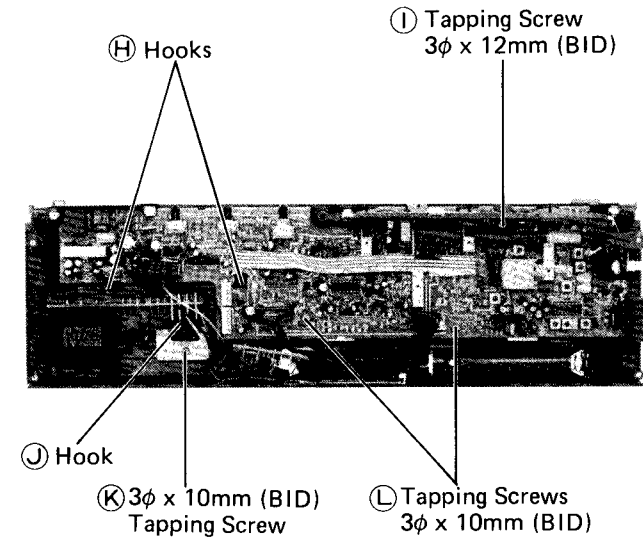

Figure 7
2. Remove two screws (L) ($3\phi \times 10\text{mm}$) and one screw (I) ($3\phi \times 12\text{mm}$) fixing main P.C. Board. (Figure 7)
4. Remove main P.C. Board with mic and headphones jack sides first while pressing two hooks (H) clamping the main P.C. Board. (Figure 7)
1. Remove one screw (K) (3φ x 10mm) fixing AC jack. Remove power P.C. Board by pushing hook (J). (Figure 7)